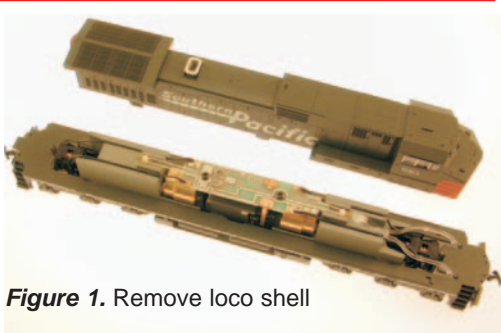

Figure 1. Remove loco shell
1. Carefully remove the locomotive shell (*Fig. 1*) noting the orientation of the shell to the frame for reinstallation.